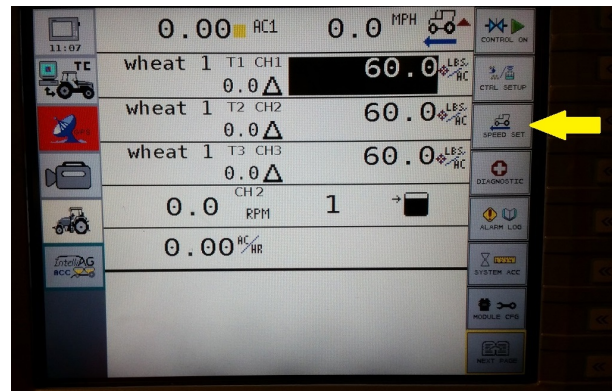

Figure 39
Step 14. Select **Speed Set** (Figure 39)